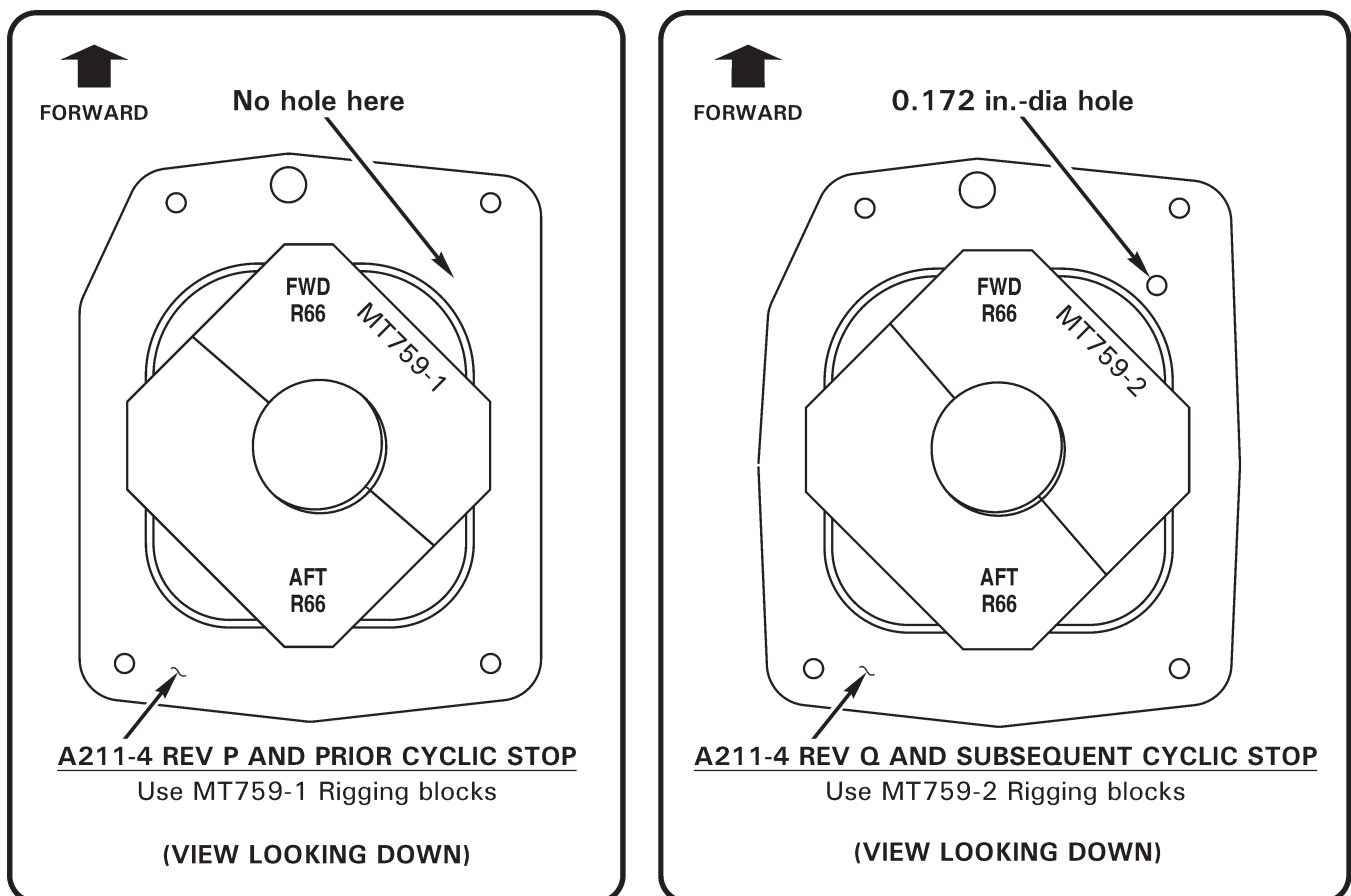

FIGURE 18-7A CYCLIC RIGGING
5. Refer to Figure 18-7A. Install MT759-1 or MT759-2 rigging blocks inside A211-4 cyclic stop. Apply cyclic stick friction. Raise collective approximately half way.
1. Refer to Figures 18-7A and 18-8. Install MT759-1 or MT759-2 rigging blocks inside A211-4 cyclic stop. Position collective stick full down and apply friction.
1. Refer to Figure 18-7A. Install MT759-1 or MT759-2 rigging blocks inside A211-4 cyclic stop. Position collective stick full up and apply friction.